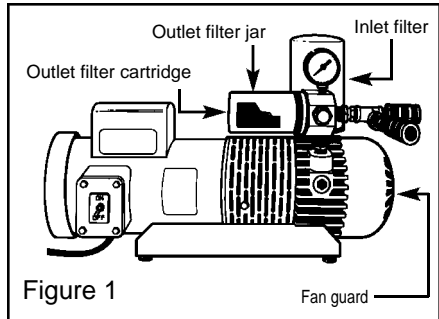

Figure 1
1. Remove fan guard by removing four retaining screws. See Figure 1.